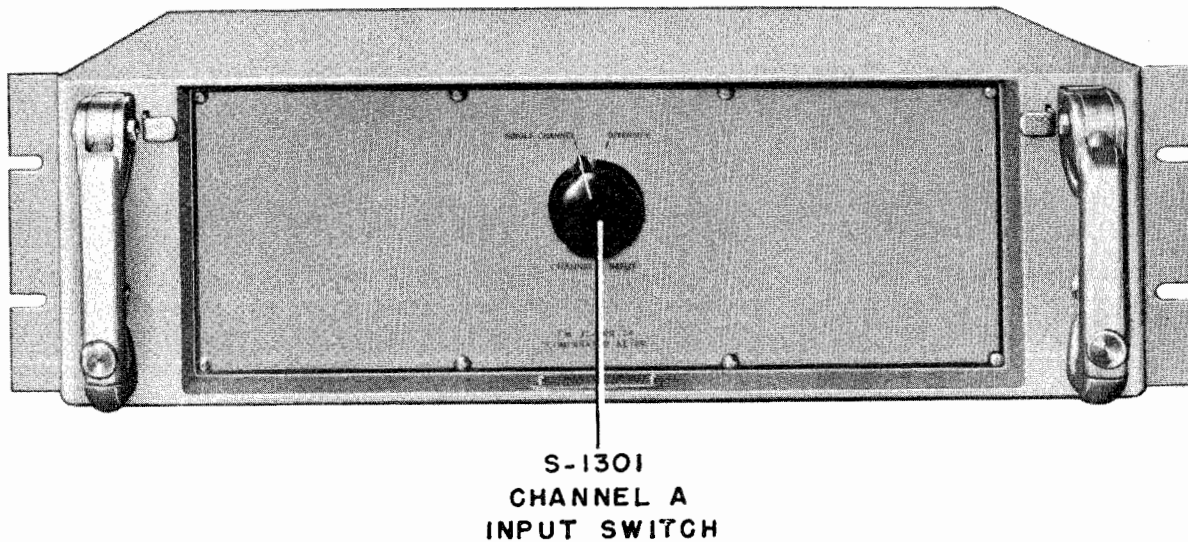

Figure 4-18. Comparator-Keyer CM-32/FRR-24 (unit 4L), Front Panel Component Identification
(5) TONE SWITCH.—Selection of one of three available modes of operation is made by this switch. The three modes of operation are External tone (Ext.), Fixed frequency (Fixed), or Variable frequency (Var.)
(6) FIXED FREQUENCY SWITCH.—Various tones in eight steps of 170 cycles each, from 595 cycles to 1785 cycles, may be selected by this switch.
(7) THRESHOLD CONTROL.—This control is utilized during reception of telegraphic signals to provide the necessary bias to suppress any noise from the receiver between transmissions or during a key-up condition.
(8) MONITOR LEVEL CONTROL.—The output of the monitor circuit is varied by this control.
n. COMPARATOR KEYS CM-32/FRR-24, UNIT 4L. (See Figure 4-18).—Keyed D.C. pulses from any or all of the Frequency Shift Converter CV-127/FRR-24 units are combined and amplified to a suitable level for operating a teletypewriter by the Comparator-Keyer CM-32/FRR-24. This Keyer is used to operate one or four teletypewriters (in quadruplex systems) on each of its two channels, each channel capable of receiving separate transmissions. In addition, it can actuate one Keyer KY-62/FRR-24 for each channel when it is necessary to transmit an F1 message over a telephone line from the receiving site to terminal equipment.